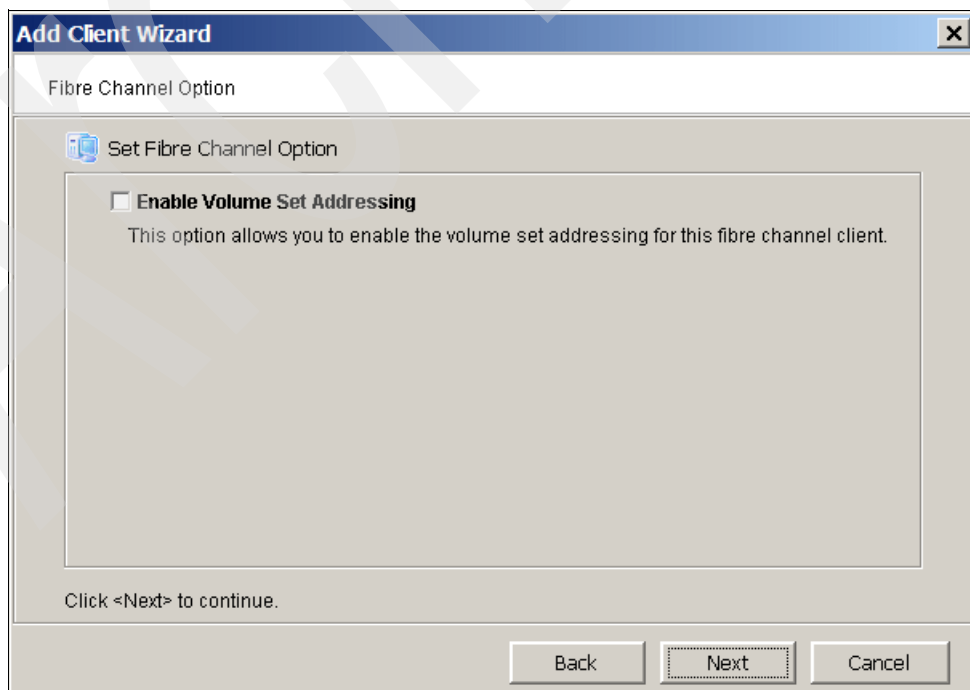

Figure 8-22 TS7500 - Volume set addressing
- In the *Fibre Channel Option* panel (Figure 8-22), determine whether you want to use Volume Set Addressing (VSA) for this adapter. This might be required for particular Fibre Channel storage depending upon the storage system's requirements. For example, storage that is connected to an HP-UX host with an HP Fibre Channel adapter requires VSA addressing.